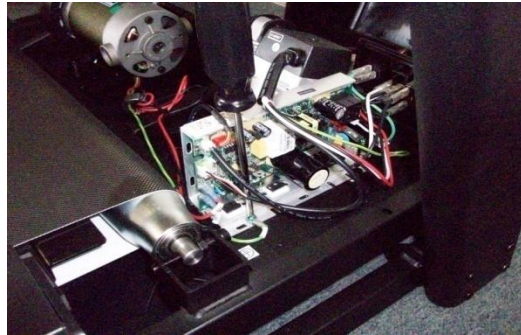

Figure 1 Controller wire connections
Step 6. Set the new controller into place and connect all the wires according to Figure 1.